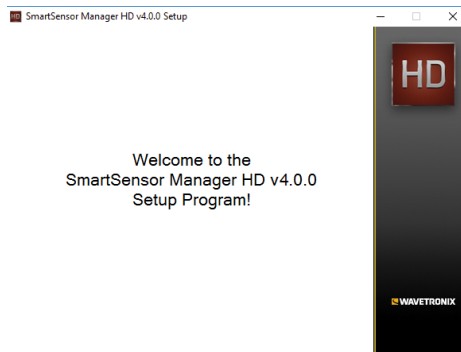

Figure 3.1 – SSMHD Setup Wizard
- 5 Once you've downloaded the file, double-click on it. Opening it executes a setup program that will copy all the necessary files to your hard drive and place icons in the Start menu and on the desktop of the PC or laptop (see Figure 3.1).